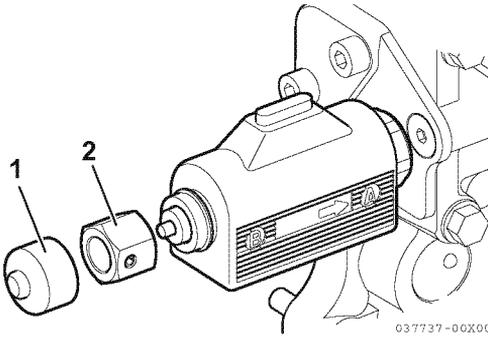

Figure 8
1. With the engine(s) not running, remove cap (1, Figure 8), and emergency nut (2, Figure 8).